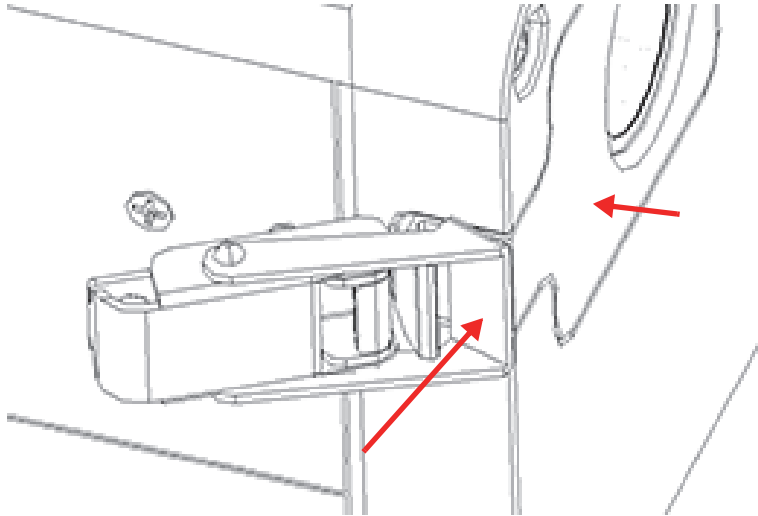

Figure 4-11 Latch over faceplate catch
5. While holding the faceplate in place, push down the front of the faceplate latch over the faceplate catch, (Figure 4-11 on page 67).